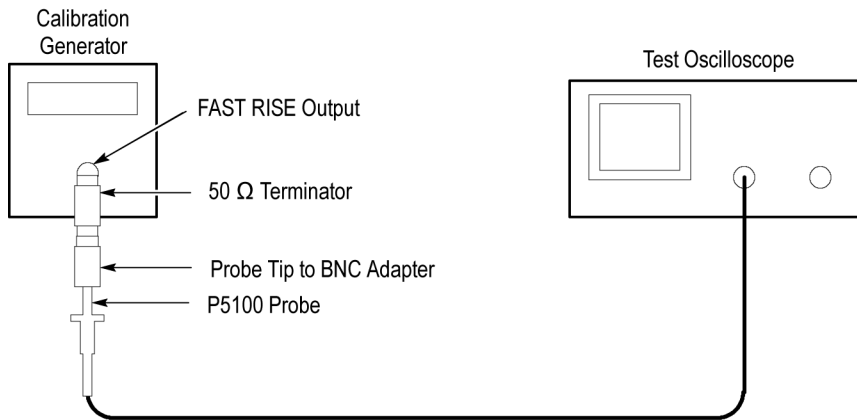

Figure 8: HF Adjustment Setup
1. Connect a 50 Ω feedthrough termination to the positive-going **FAST RISE** output of the calibration generator. (See Figure 8.)